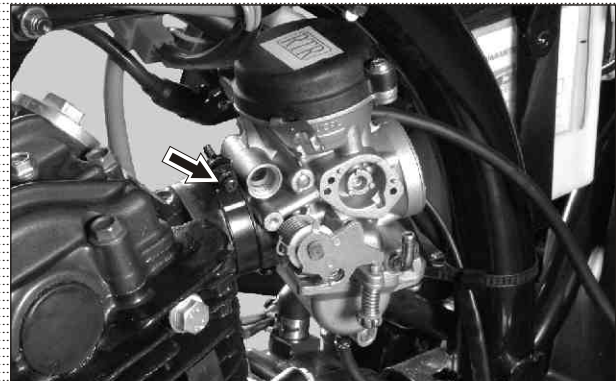

Fig. 4.17
- Loosen CRR pan head screw of the clamp intake pipe and gently pull out carburettor assembly from the pipe intake. (Fig. 4.17)